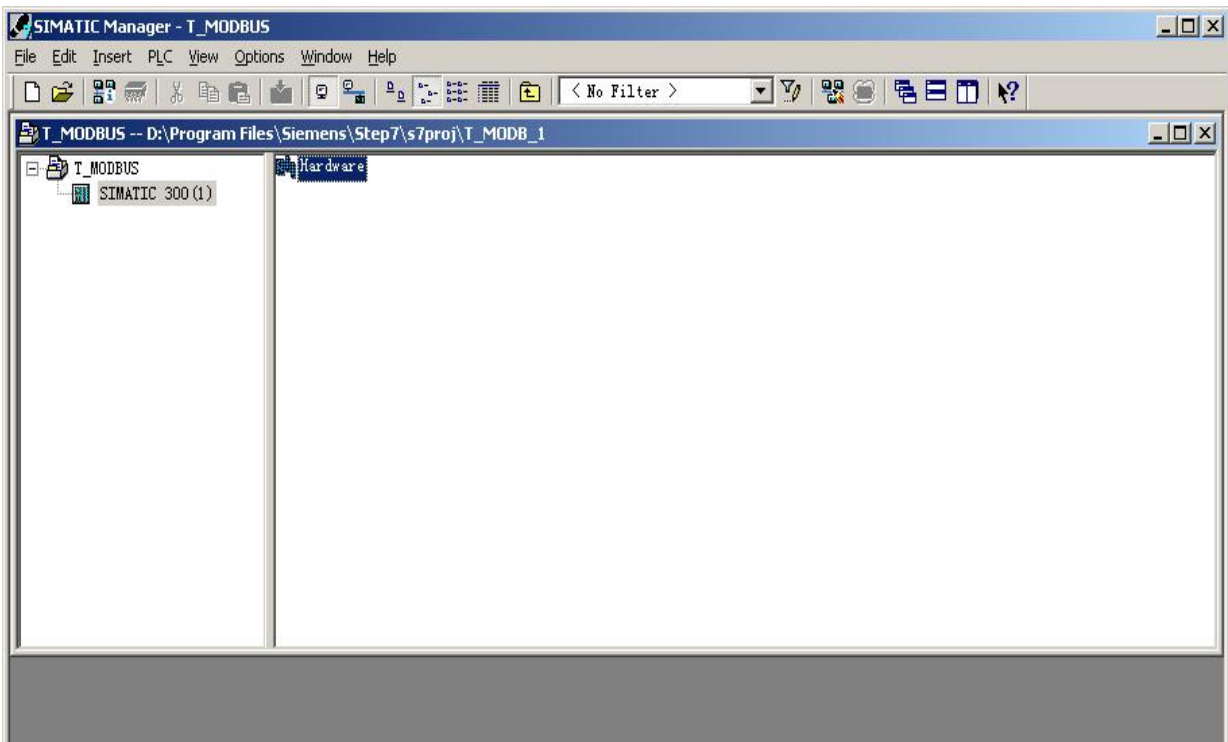

Figure 4
4. Open S7 PLC hardware configuration: SIMATIC 300(1)->Hardware, double-click. Figure 4: